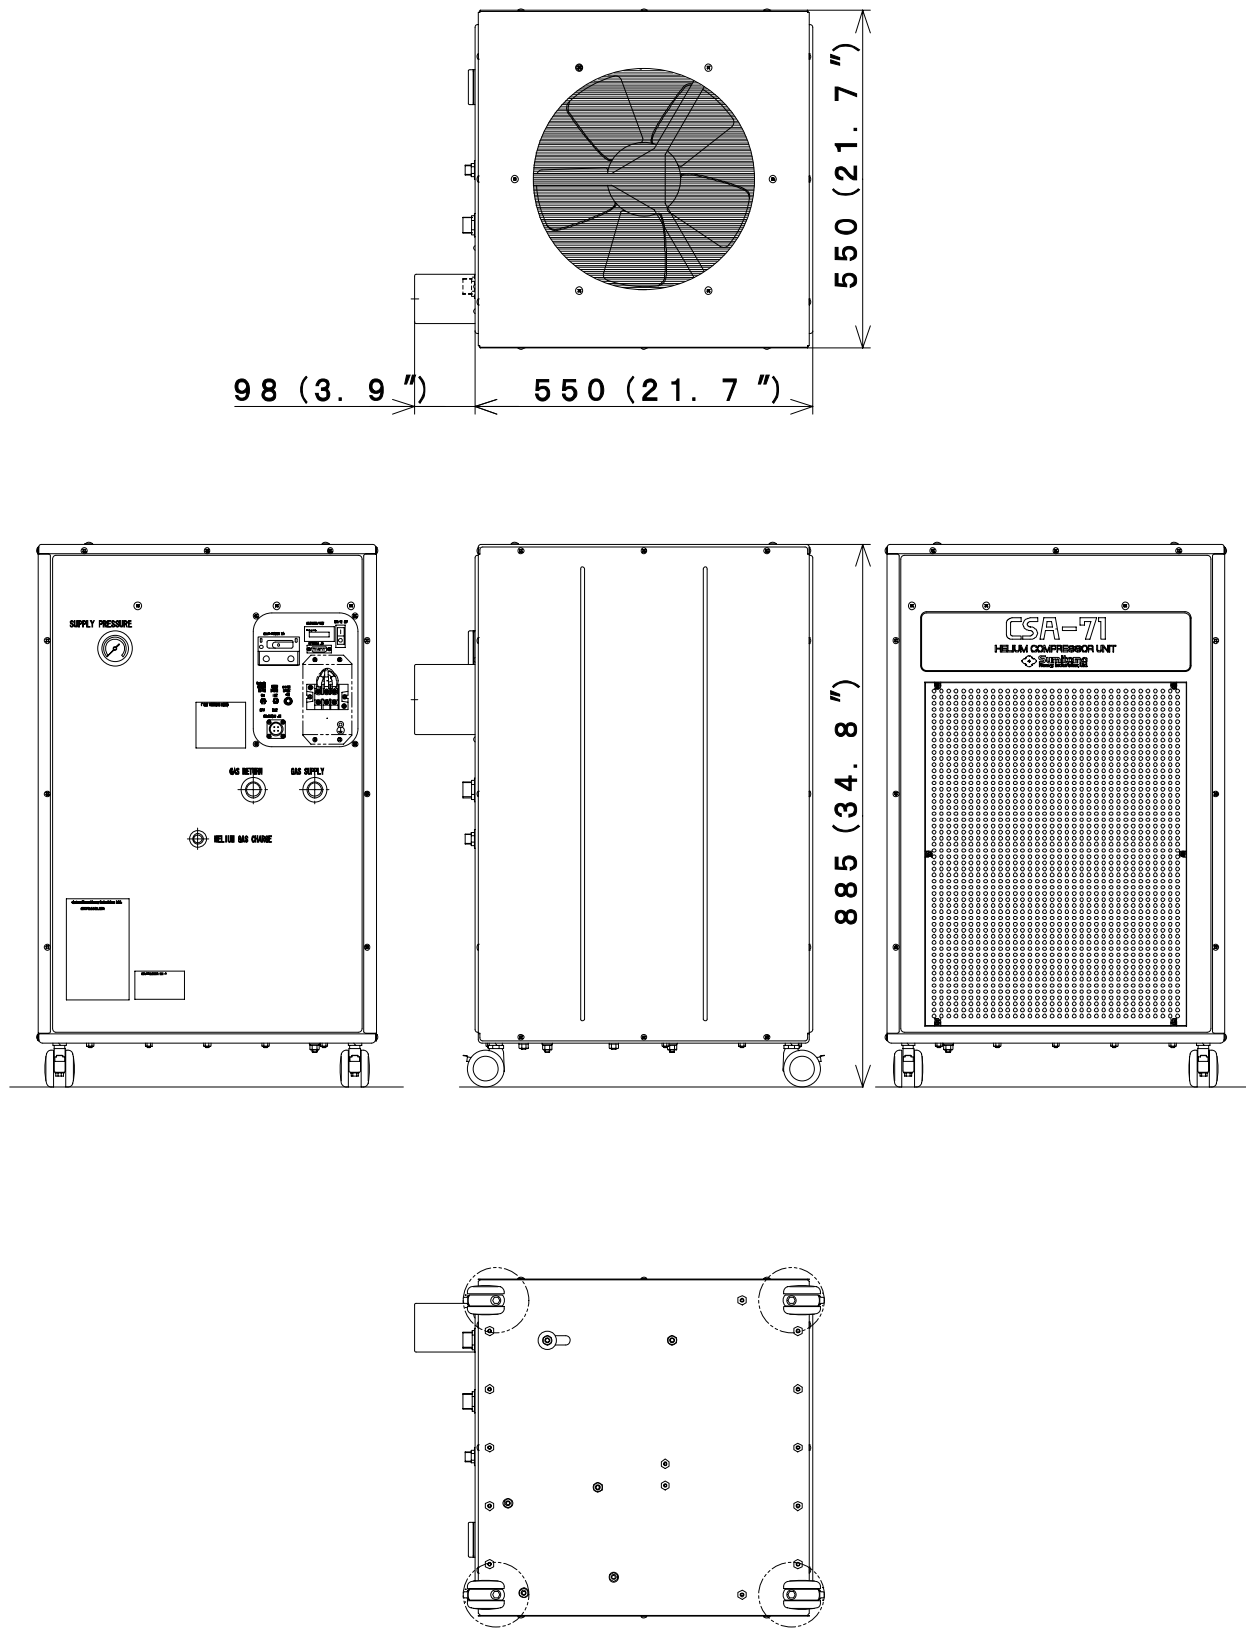

Figure 1.1 OUTLINE VIEW FOR CSA-71A COMPRESSOR UNIT
* Input Power Cable Terminal Cover is 98.0 mm (3.9'). See the **Figure 1.1**.